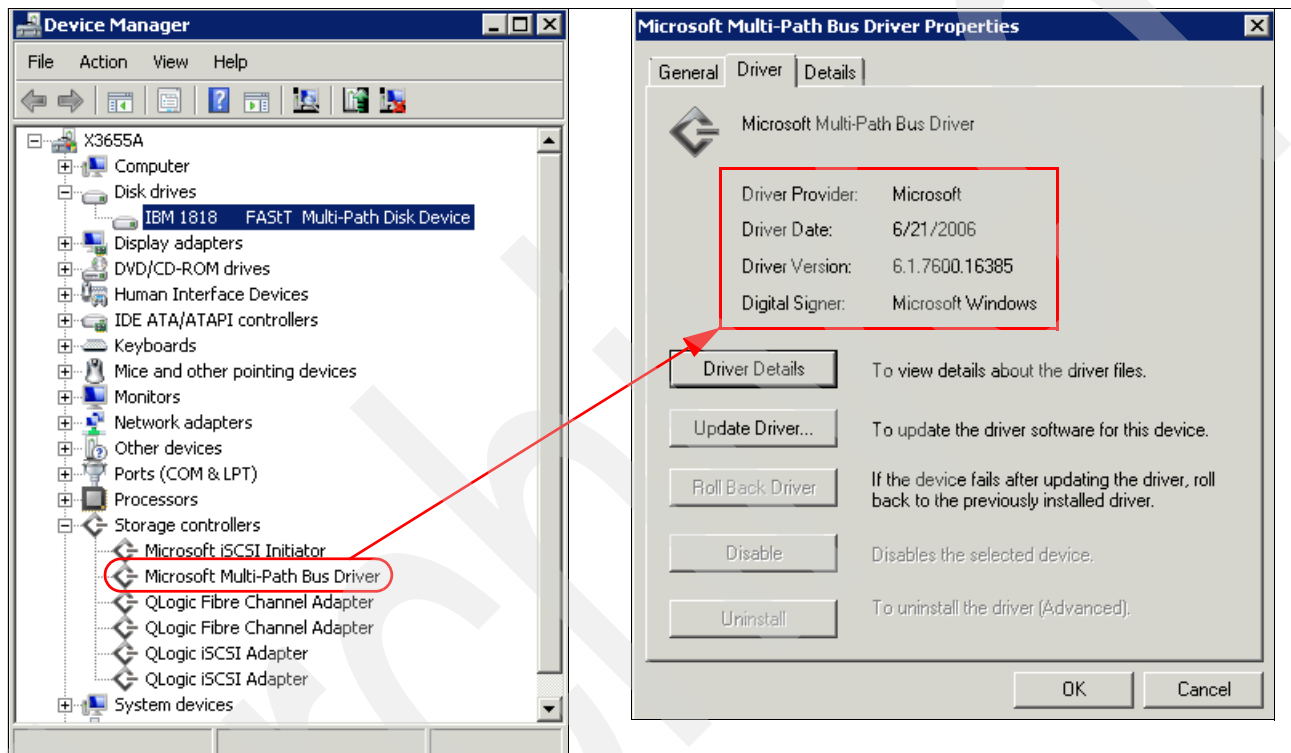

Figure 7-87 Determining the device driver in use
- ▶ If you are running MPIO, as shown in Figure 7-87, there is a module under the Storage controllers tree that identifies the driver. Right-click it and select Properties to see the version of the driver installed under the Driver tab.